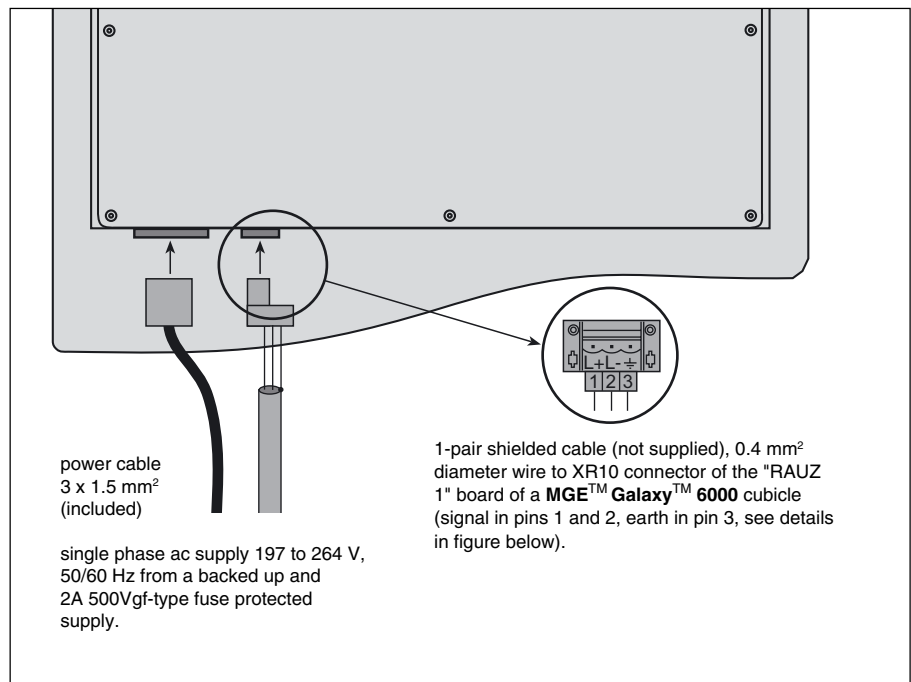

Fig. 12
- ▶ connect as described in the paragraph below (see figure 12);
Information is connected by means of the communication terminal block placed on the bottom panel of the enclosure (see figure 12):